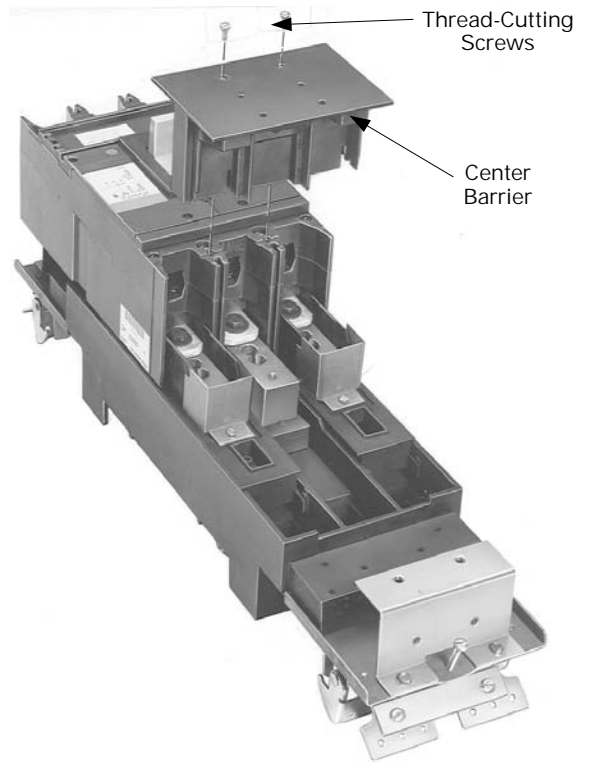
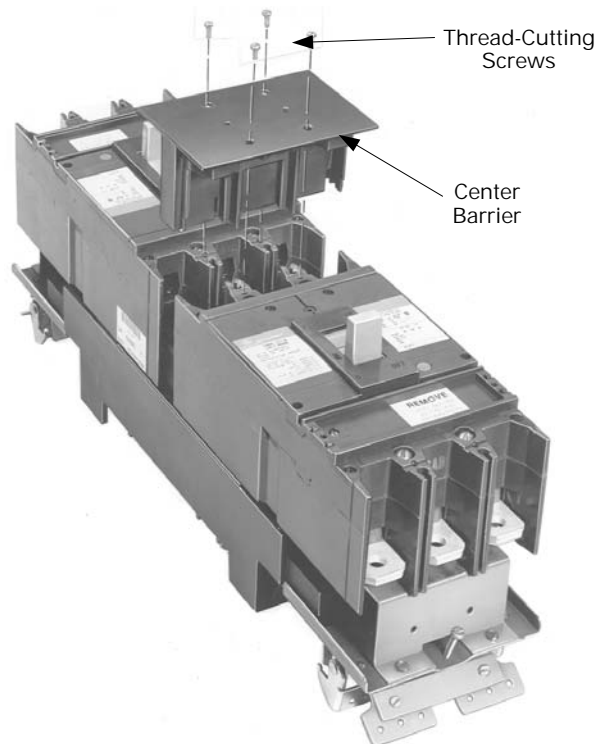
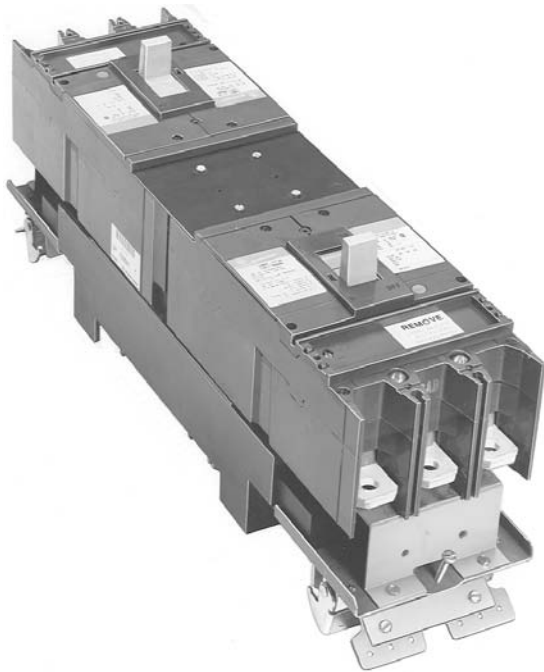

Figure 6. Installing the center barrier with one breaker on the module.
Figure 7. Installing the center barrier with two breakers on the module.
Figure 8. Completed center barrier installation with two breakers.
5. **Install the center barrier.** The center barrier *must* be installed after the breaker has been secured to the module. Slide the center barrier onto the breaker, as shown in Figure 6 for a single breaker and in Figure 7 for two breakers. Secure the center barrier with two thread-cutting screws into each breaker and tighten to 10 in-lb. Figure 8 shows a complete two-breaker installation.